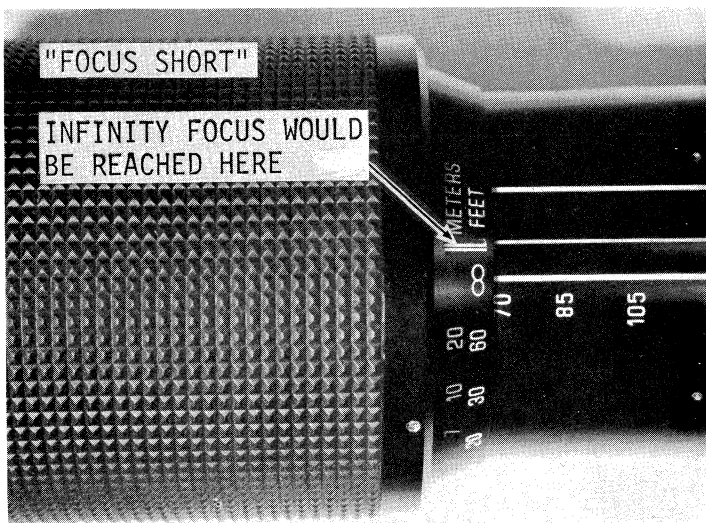

Fig. 58
10.2.1 Focus Short - When rotating Zoom Collar to focus at infinity, focusing scale contacts infinity stop before infinity focus is reached. That is, infinity focus of the lens is beyond the infinity mark of the focus scale. (Fig. 58)